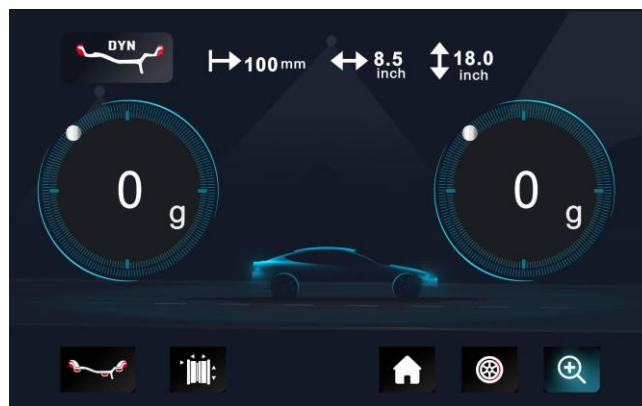

Fig. 8
4.2.7. After clipping the counterweights, close the guard. Press  to perform a balancing spin again, if the display shows 00 and 00, this means that balancing was successful (Fig. 8).